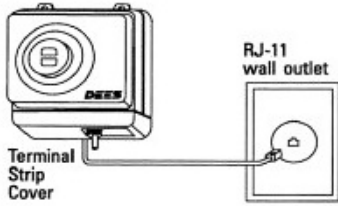
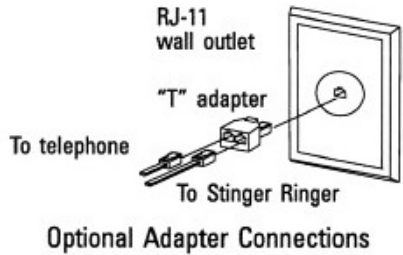

Fig. 1
Fig. 2
3. If device is to be connected using a modular telephone cord, a UL/CSA approved cord is to be used (provided). Cord should have one end terminated with #6 spade tips and the other end with an RJ11 plug. At the terminal block, the Red lead connects to RING, and Green connects to TIP. Plug the RJ11 end into the telephone jack (Fig. 1). If the telephone jack must be shared with other equipment, a "T" adapter may be used as shown in (Fig. 2).